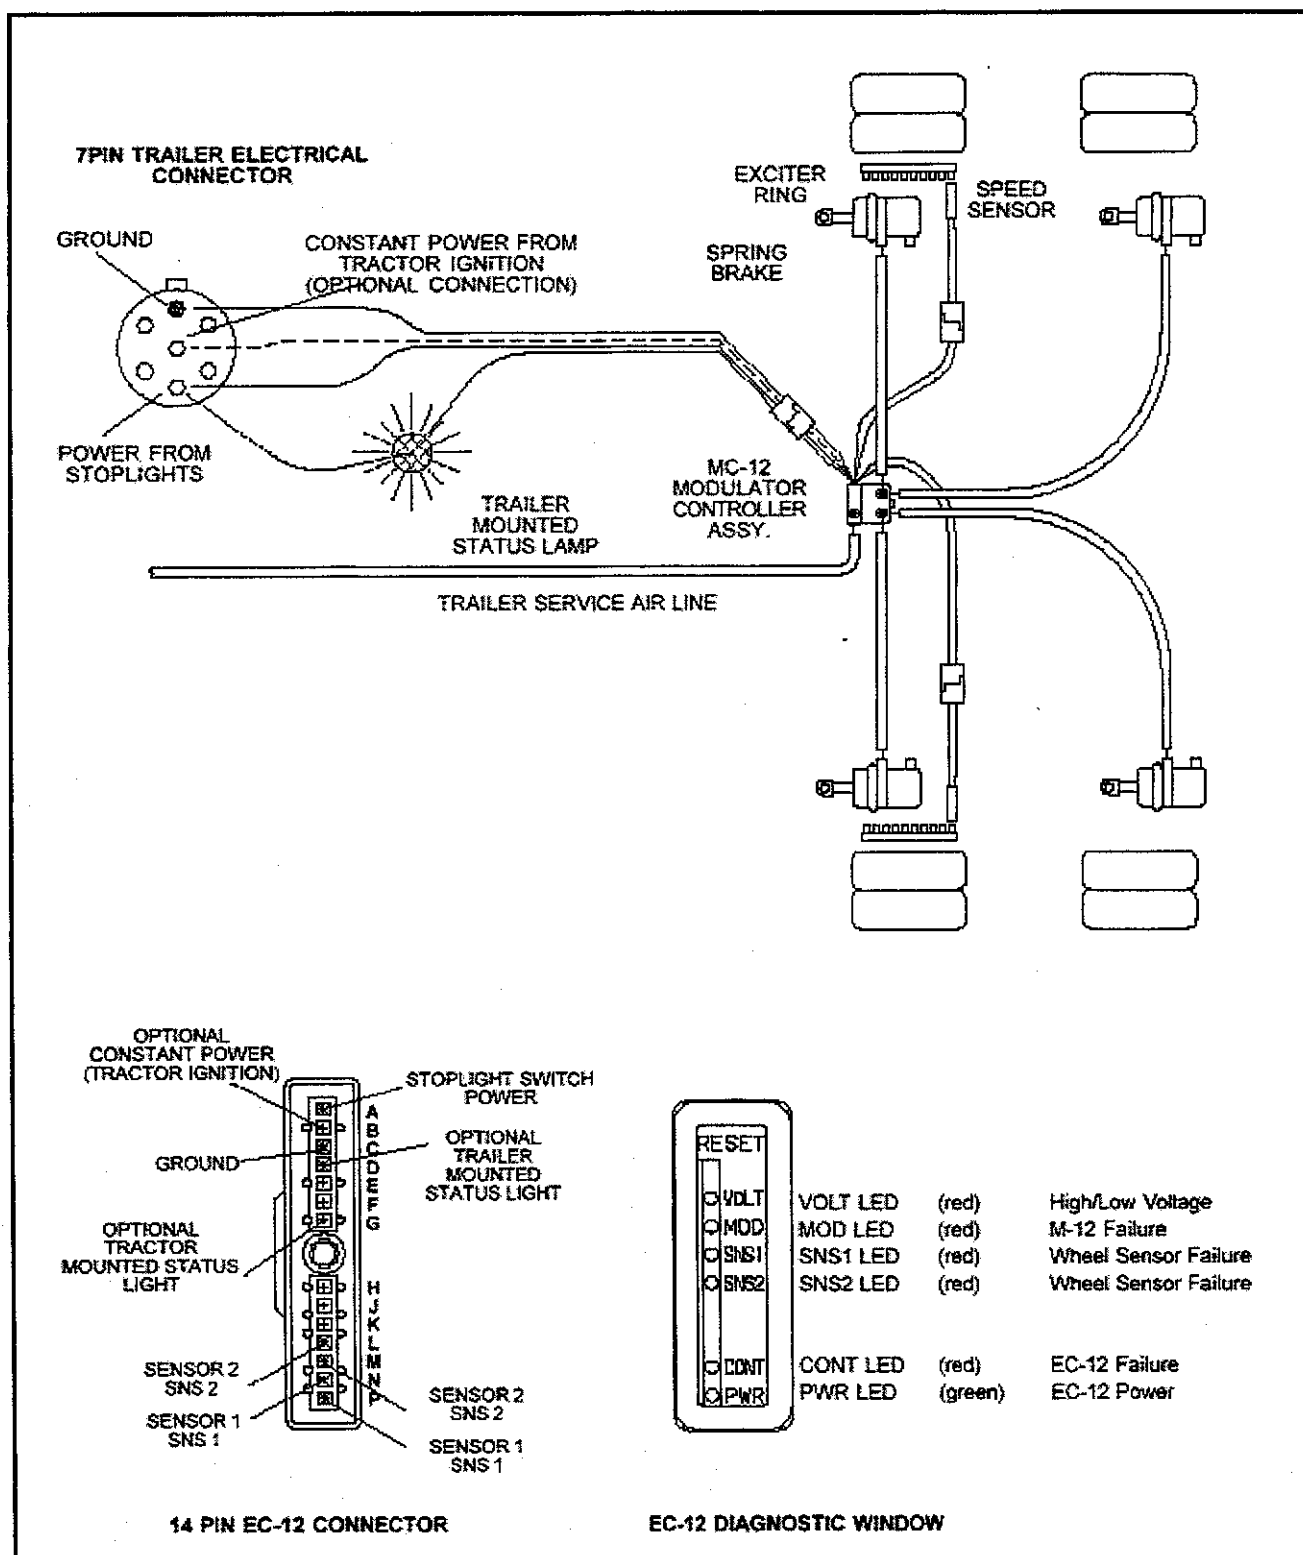

Figure 20—7-Pin and 14 Pin Connectors
- See Figure 20—7-Pin and 14-Pin Connectors